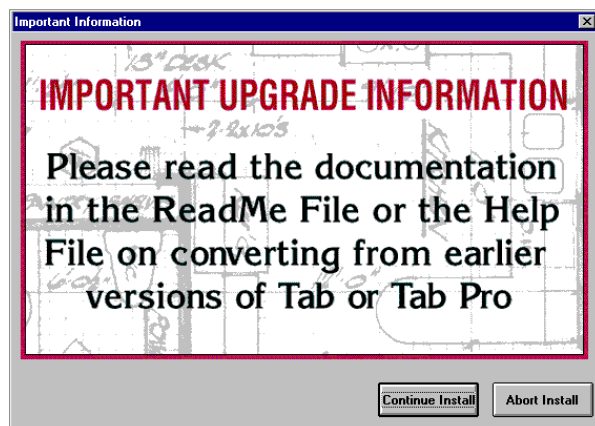

FIGURE 33. TabPro Important Information Dialog
8.66 Click the 'Continue Install' button on the 'Important Information' dialog. See Figure 33.